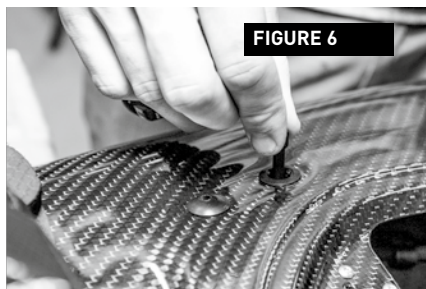

FIGURE 6
10) Switch off the ICU by placing the shut-off key to the indicator – FIGURE 6.